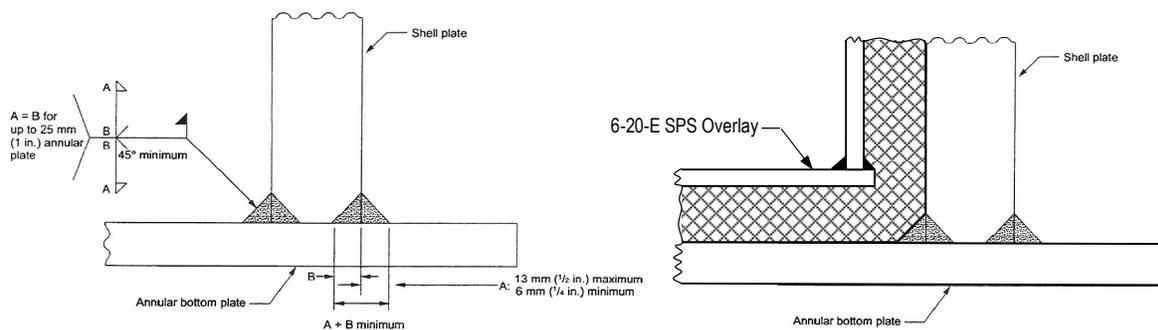

Figure 1. Detail of shell-to-bottom joint (API-650) before and after SPS Overlay
Above ground steel storage tanks are subjected to fluctuating pressures from tank filling/emptying operations and thermal expansion. These pressures can introduce high stress ranges in the fillet weld between the tank shell and bottom annular ring plating (see Figure 1) which often results in low cycle fatigue damage and weld cracking.
To demonstrate the improved fatigue performance of the SPS Overlay design, Intelligent Engineering (IE) conducted a representative analysis to compare a typical shell-to-bottom connection detail, both before and after the application of the SPS Overlay (see Figure 1). This technical note is a summary of the results.